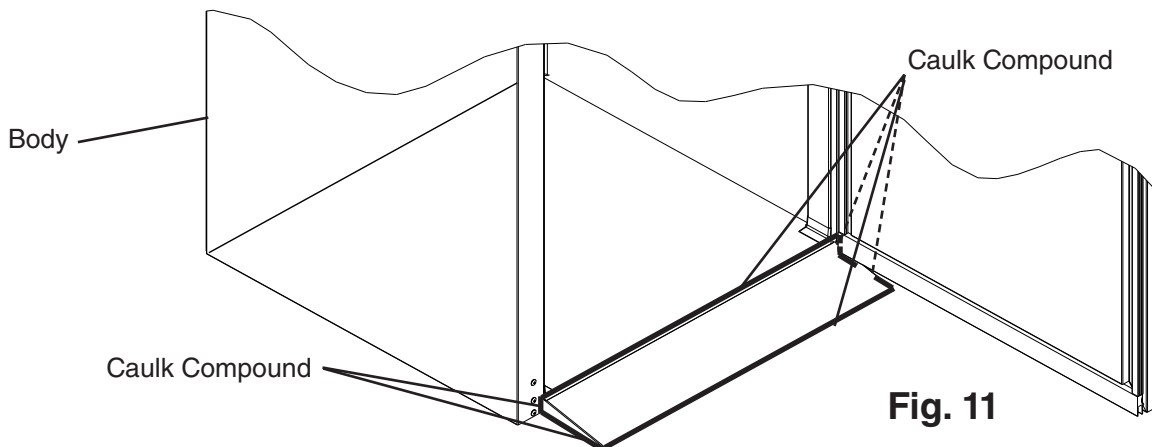

Fig. 11
- 3) Seal around the ramp as shown in Fig. 11 with an approved caulk compound.